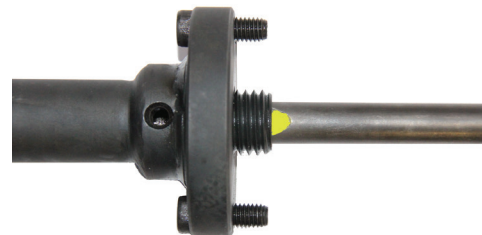

Figure 4
2.3.7) Align the pilot drill flat with the Allen-head set screw and insert the pilot drill through the center of the saw mandrel stud (see Figure 4).